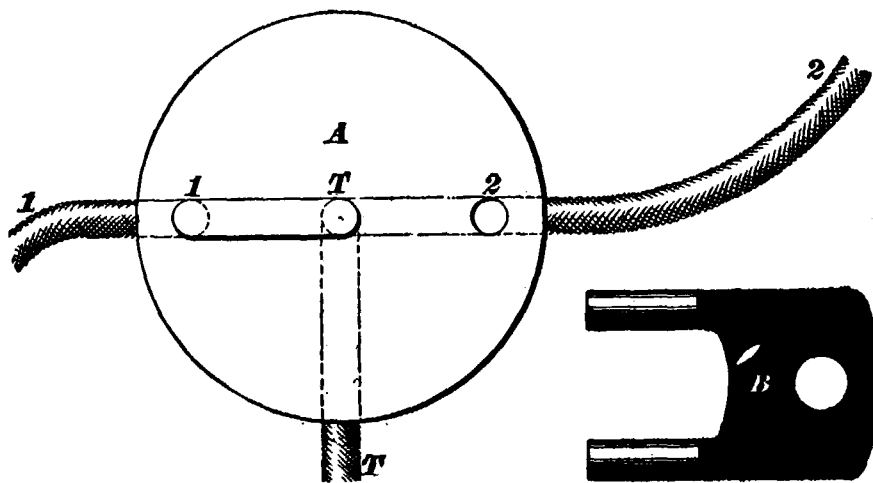

FIG. 49.
44. Westinghouse Plug Switch.—Fig. 49 shows the Westinghouse Company's three-way plug switch. A is a disk of hard rubber about $3\frac{1}{2}$ inches in diameter and about $1\frac{1}{4}$ inches thick. In it are three metal-lined holes $T, 1, 2$, each with a metal bottom. By means of posts not shown in the figure, one circuit is attached to the metal sheathing of hole 1 and the other to that of hole 2 ; the trolley wire connects to the sheathing of hole T . B is a U plug with a rubber handle; holes $1, 2$, and T have no connection with one another until plug B is shoved into place; if B is put into the two left-hand holes, the current comes in on